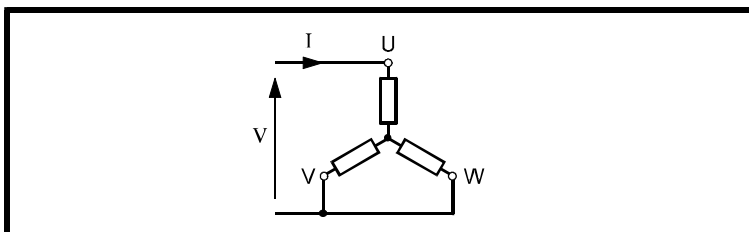

Figure B-1 Connecting a motor to a DC source for mechanically aligning the resolver shaft
- 3 Apply a *direct current* of 50% of the motor rated current through the motor windings, as shown in Figure B-1